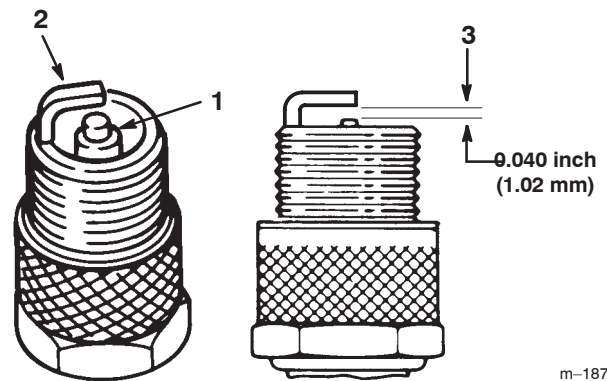

Figure 23
1. Look at the center of the spark plug(s) (Figure 23). If you see light brown or gray on the insulator, the engine is operating properly. A black coating on the insulator usually means the air cleaner is dirty.
2. Check the gap between the center and side electrodes (Figure 23). Bend the side electrode (Figure 23) if the gap is not correct.